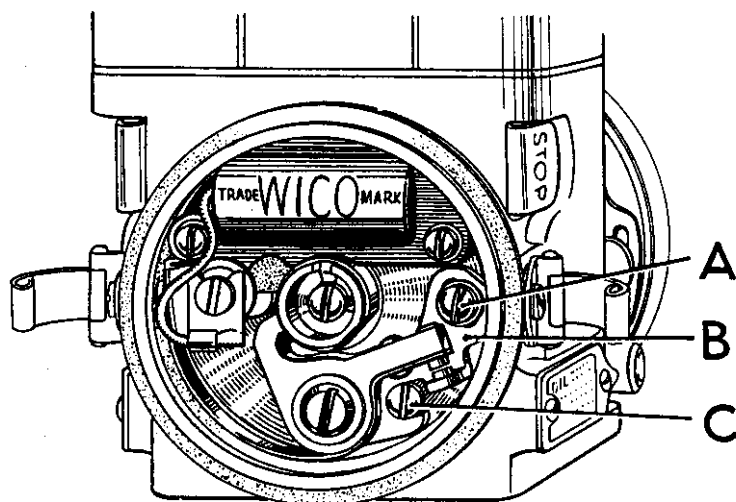

Fig. 6.
**Breaker Point Opening:** The correct breaker point opening is .015in. When re-adjustment is necessary, loosen the screw *A* (Fig. 6) which locks the fixed contact plate *B*, and turn the eccentric headed screw *C* until the correct opening of points is obtained. Then lock the plate securely.